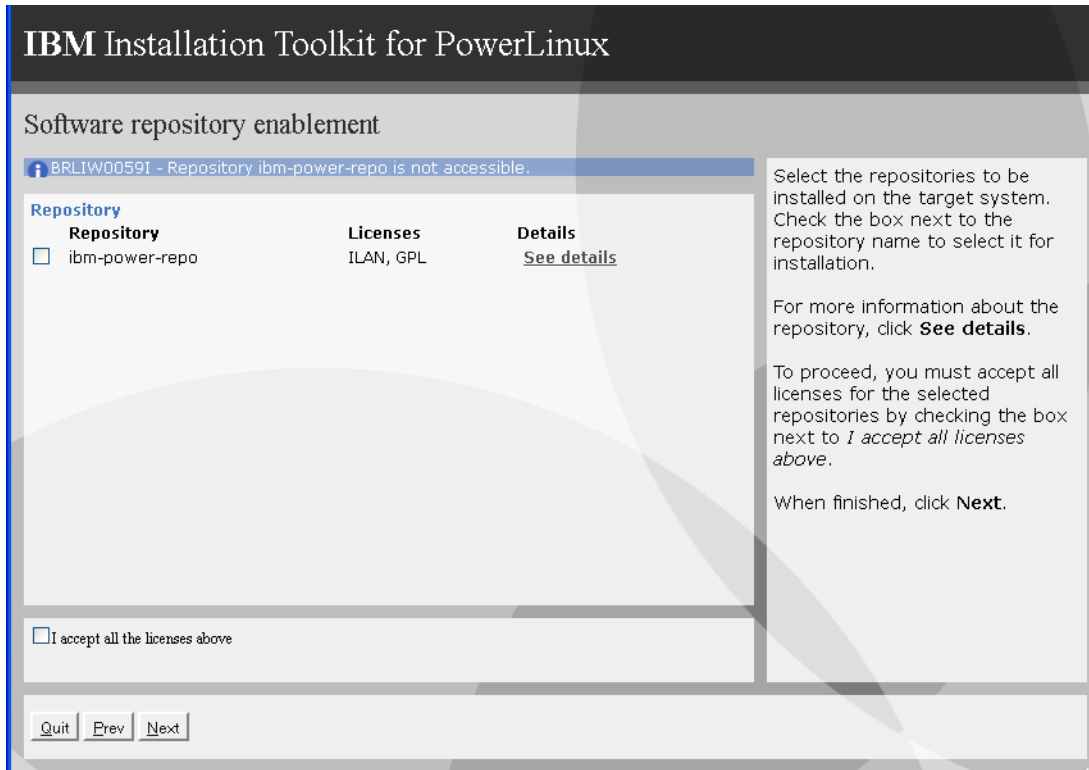

Figure 12-18 Configure the IBM repository
22. As shown in Figure 12-18, if a network is available that is providing external network access for a software repository, select the IBM repository and accept licenses. This makes future updates easier with the yum tool. In this example, there is no access to the Internet and IBM public repositories, so we leave the boxes cleared; therefore, we use a locally based software repository. Click **Next** to continue.